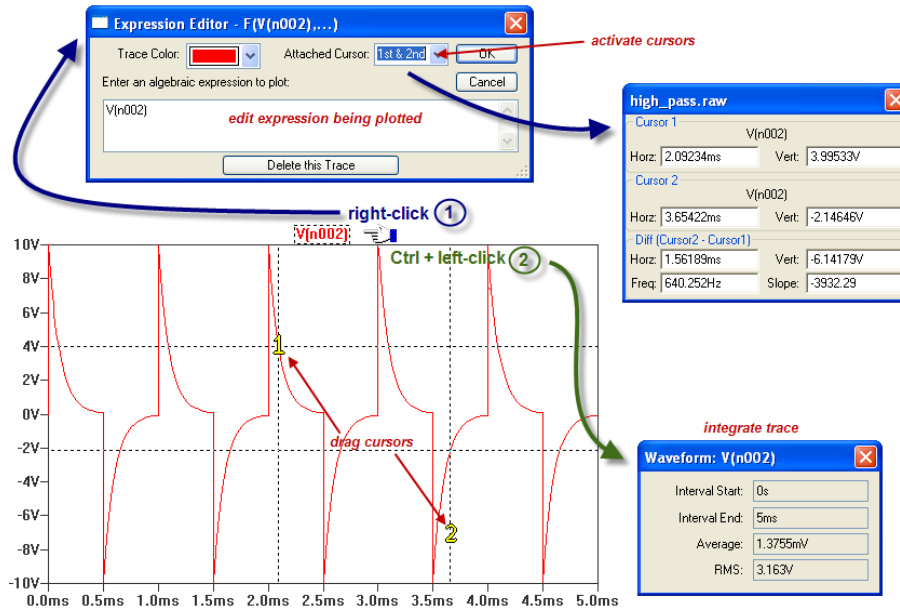

Figure 1.8: Use of cursors and trace integration in the plotting utility.
- Find the average, rms, or the integrated values of a trace. Figure 1.8 shows an example of how to use cursors and perform trace integration.